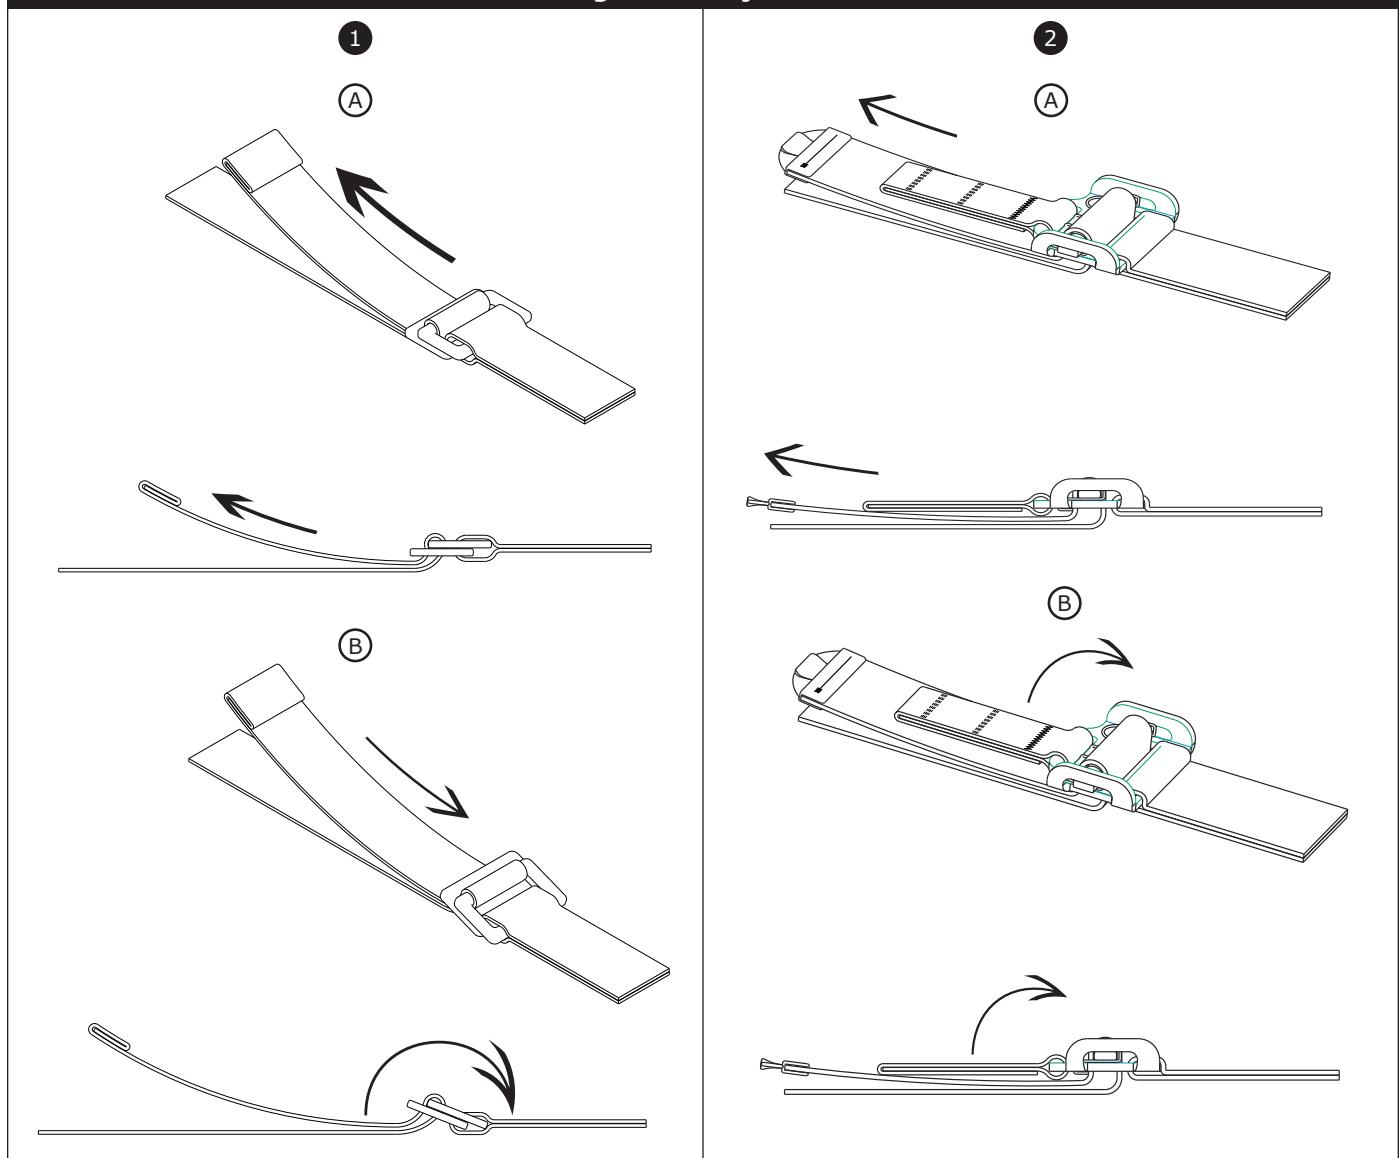

Figure 8 - Donning the Harness
3.5 DONNING AND FITTING THE FULL BODY HARNESS: Figure 8 illustrates donning and fitting of the harness. When donning your harness, ensure that it has a snug, comfortable fit. To don and fit the harness: